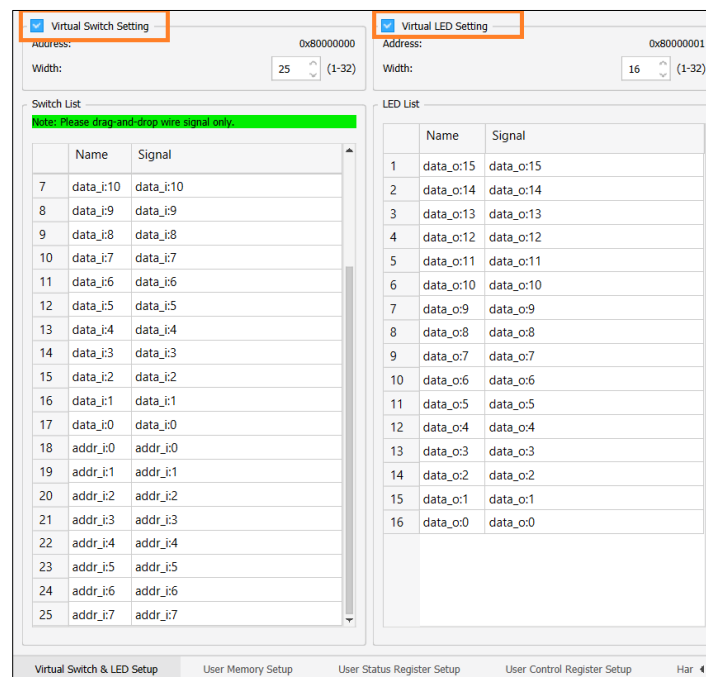

Figure 3.1. Virtual Switches and LED Setup in Reveal Inserter
3. Drag and drop the signals from the **Signal Pane**. Once added, the signals should appear in their assigned cell as shown in Figure 3.1. A group of signals can also be added by pressing **SHIFT** or **CTRL**, and then clicking multiple signals and dragging them to the **Switch List** or **LED List**.